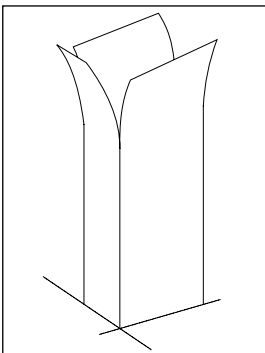

Fig. 7:
- Traditional attachment: unless stated otherwise on the order form, the lateral guides are supplied 50 mm longer than the window height. This allows the profiles to be sawn to the correct length at the top when installed and folded over to create a funnel (Fig. 7)